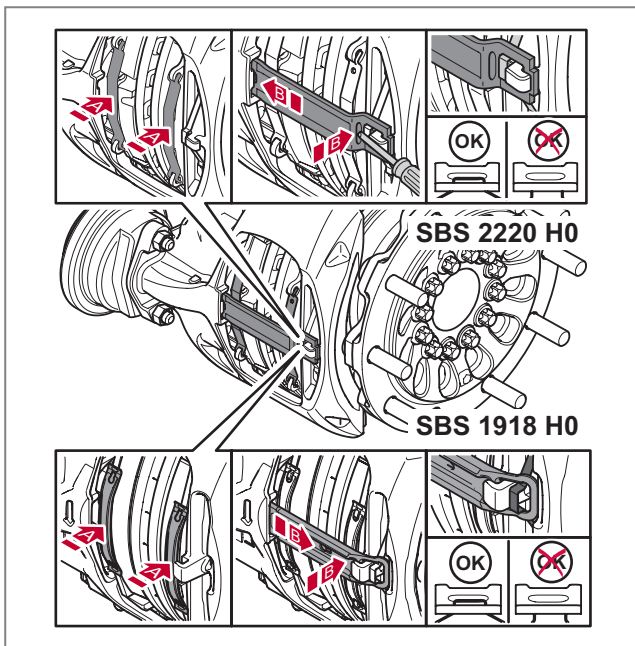

Fig. 41 - Install the brake pad components
- Fit the new pad springs (A) and the pad retainer (B). The pad retainer is secured by first locating it in the housing end in the brake calliper aperture. The pad springs are then compressed and the rectangular aperture of the pad retainer is placed over the brake calliper seal. The pad retainer is then slid under the brake calliper seal until the spring bracket engages in its locking position, see ► Fig. 41. If necessary, use a tool to help push the brake pad retainer into position.